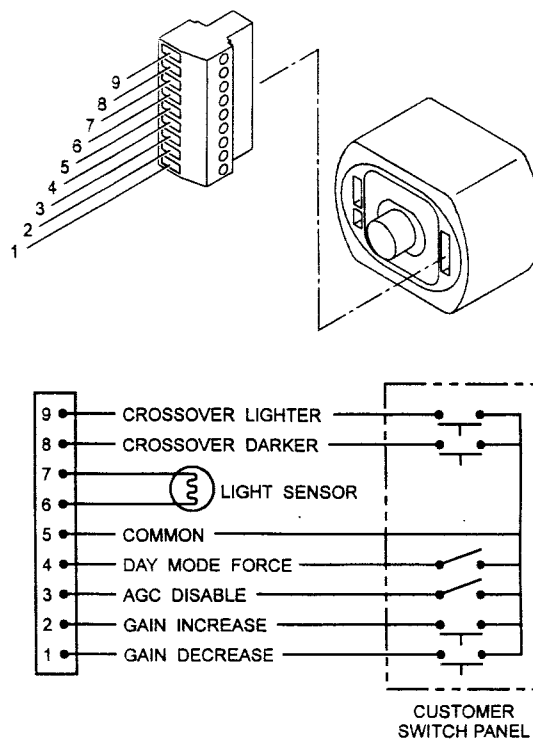

Figure 6. Wiring the Auxiliary Control Connector
INTRODUCTION - Certain optional IntelliVu functions can be accessed through the auxiliary control connector by means of contact closures as shown in Figure 6. User requirements dictate which functions are employed and what type of switching devices are appropriate.
1. To set gain manually, the default AGC circuitry must first be disabled by completing the circuit between Pin 3 (AGC-DISABLE) and Pin 5 (COMMON). See Figure 6.
2. Gain is set in an incremental fashion by momentary contact between either Pin 1 (GAIN DECREASE) or Pin 2 (GAIN INCREASE) and Pin 5 (COMMON). See Figure 6. Maintaining contact causes the gain to step up or down at a fixed rate until contact is broken.